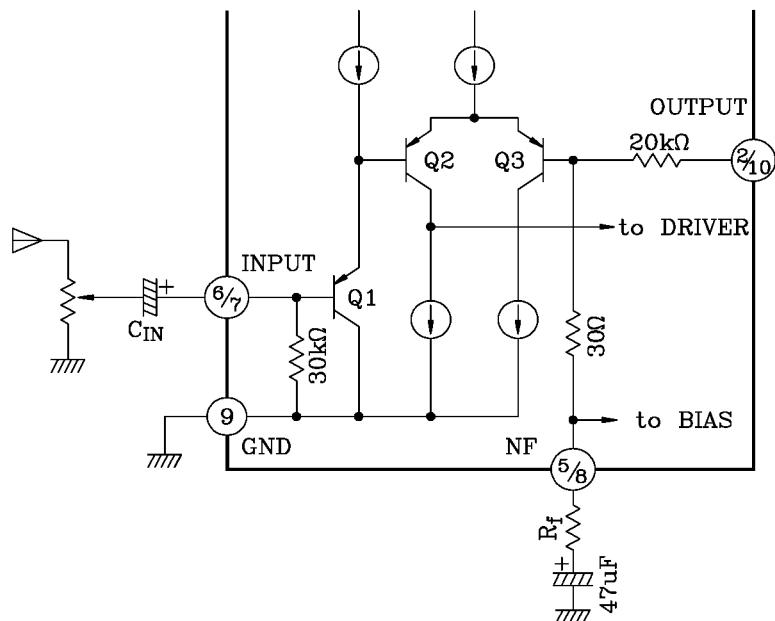

Fig. 2
The input circuit of this IC is as shown in Fig. 2. PNP TR:Q1 is provided in the input circuit so as to make its usage possible without the input coupling capacitor. However, at pins ⑥ and ⑦, max 60mV offset voltage is produced.